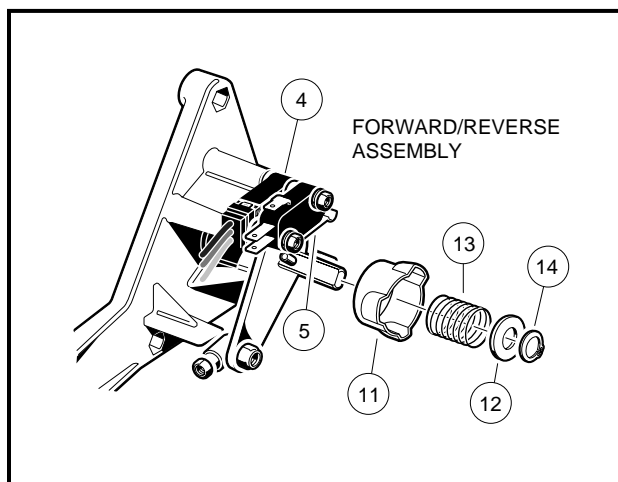

Figure 12-20 Neutral Lockout Cam
2. Connect the black wire to common (COM) terminal, the green wire to the normally open (NO) terminal and the white wire to the normally closed (NC) terminal of the neutral lockout limit switch (**Figure 12-20**).
2. Remove the external snap ring (14) (**Figure 12-20, Page 12-18**).
3. Remove the plastic washer (12) and the spring (13).
4. Remove the cam (11).
1. Install the cam (11) (**Figure 12-20, Page 12-18**).
2. Install the spring (13) and the plastic washer (12).
3. Install the external snap ring (14) onto the shaft. Be sure the snap ring is installed in the groove on the shaft.